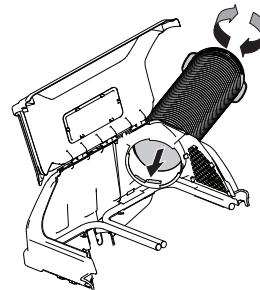

Figure 23
1. Thread the upper end of the hose securely into the upper chute support. There are two tabs on the lower inside part of the upper chute support to allow for secure threading. See Figure 23.